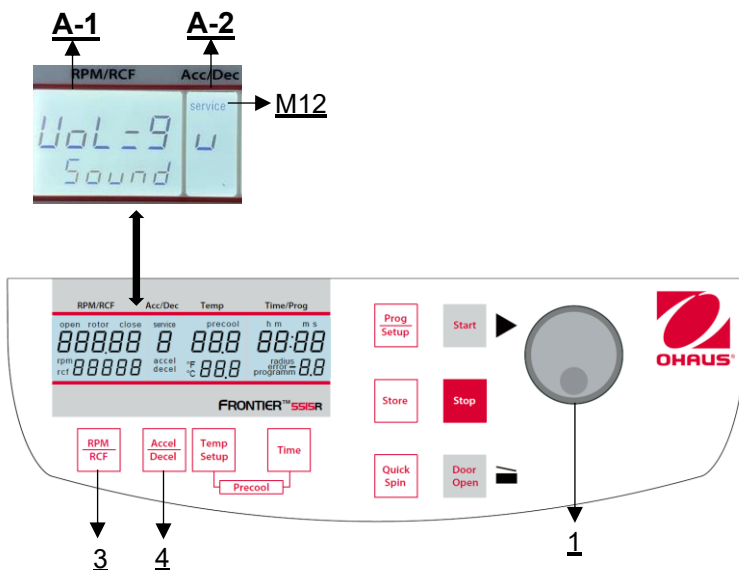

Figure 32
Proceed as described under point 4.1.1 to enter this program mode and then press the key **"Accel/Decel"** (4). In the display **"Acc/Dec"** (A-2) the word **"Service"** (M12) flashes. Now select the letter **"U"** with the adjusting knob (1). As a result, the words "Vol=9/Sound" appear in the display **"RPM | RCF"** (A-1). After pressing the key **"RPM | RCF"** (3), you can adjust the desired volume between 0 (low) and 9 (loud) with the adjusting knob (1) (see **Figure 32**).